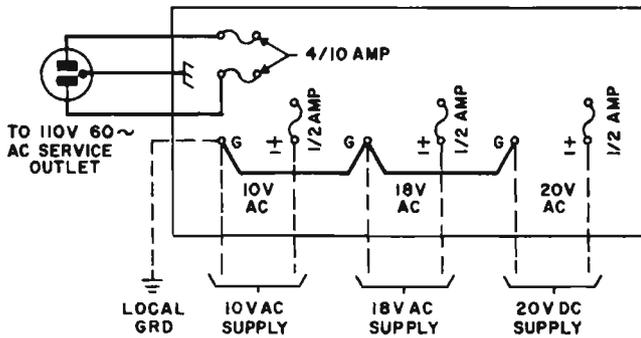

Fig. 6 - J86736A, List 1 101H Power Plant
6.02 Fig. 6 gives the connections of the J86736A, List 1 101H power plant.